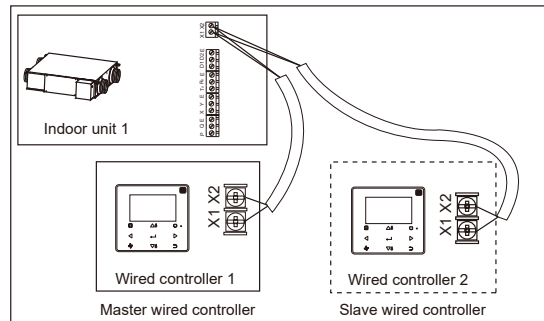

Fig. 4-4
- Use 1 wired controller to control 1 indoor unit or 2 wired controllers (one master and one slave controller) to control 1 indoor unit. (see Fig.4-4)